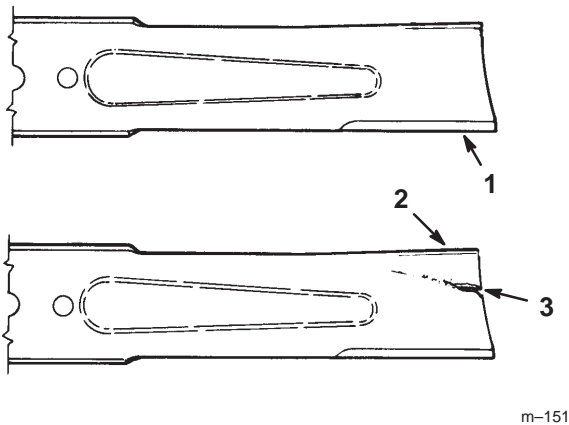

Figure 12
1. Inspect the cutting edges (Fig 12). If the edges are not sharp or have nicks, remove and sharpen the blades. Refer to Sharpening the Blades on page 13.
2. Inspect the blades, especially the curved area (Fig. 12). If you notice any damage, wear, or a slot forming in this area (item 3 in Fig. 12), immediately install a new blade.